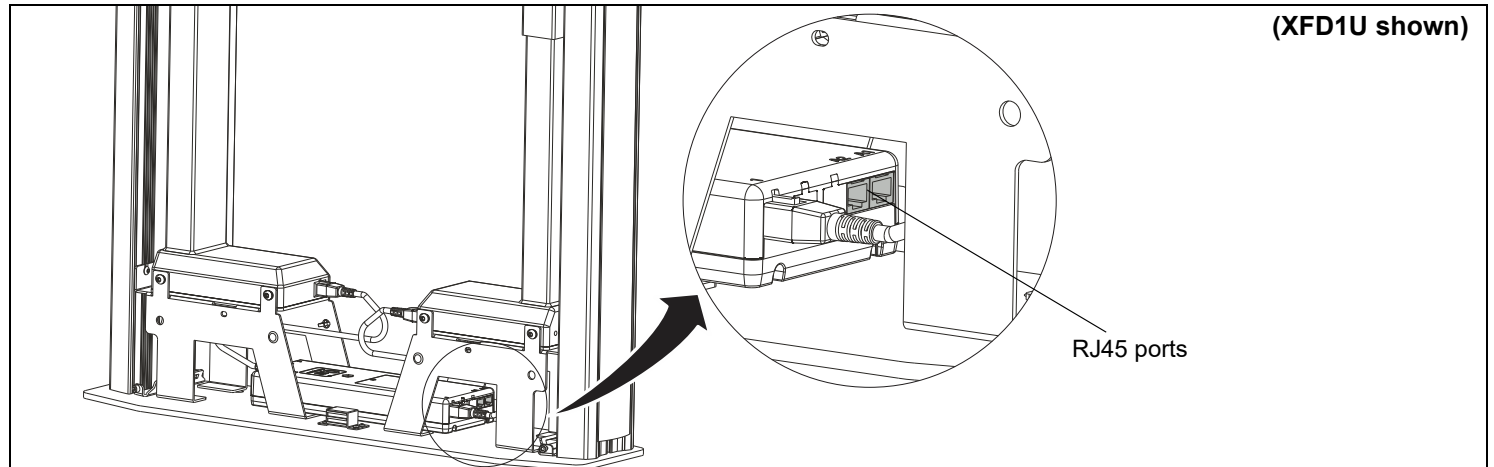

Figure 2
1. Plug in the Bluetooth® dongle (B) into the available RJ45 port on the motor control box. (See Figure 2)